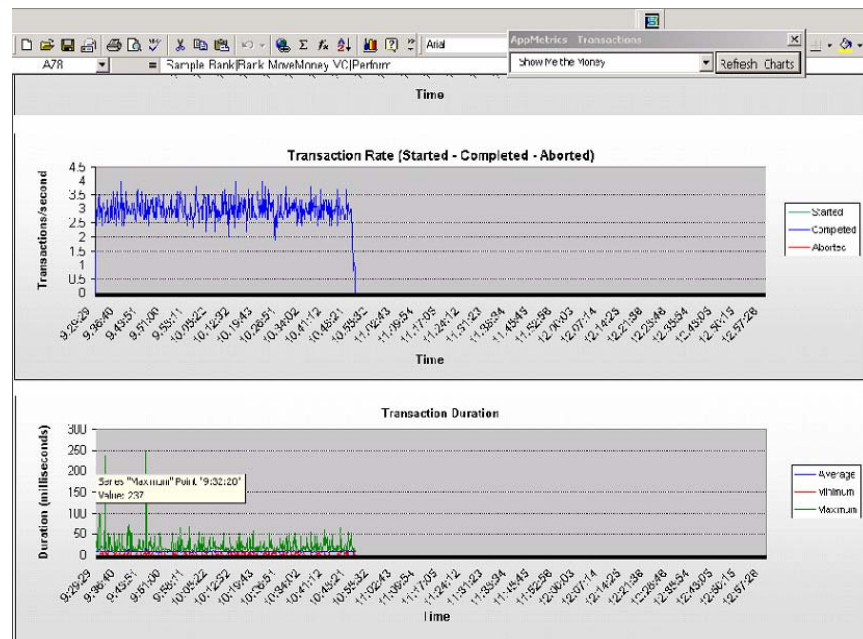

Figure 10
11. The next report to view is the **Transactions Report** (see Figure 10).